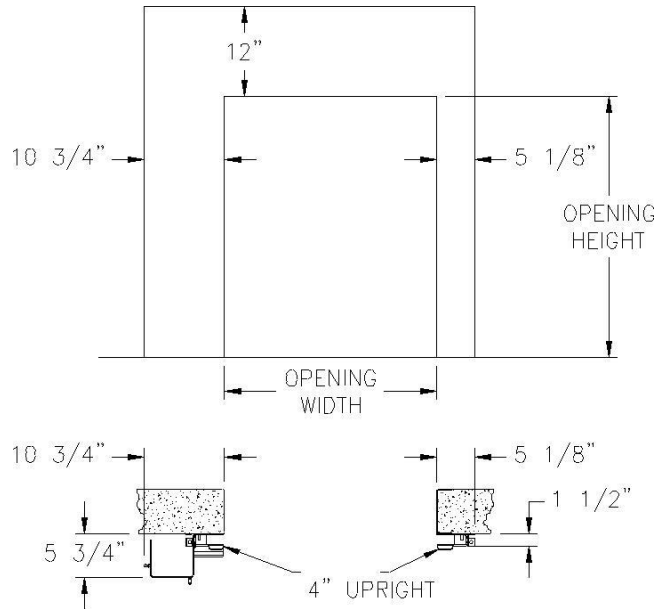

FIG. 1A
- 4'' wide side frame shown in Figure 1a.